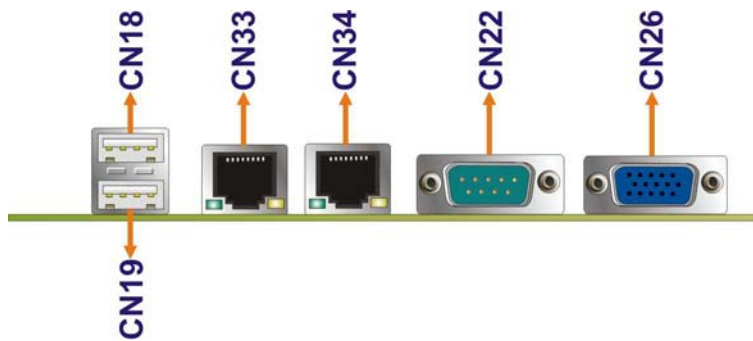

Figure 4-24: WAFER-LX3 External Peripheral Interface Connector
Figure 4-24 shows the WAFER-LX3 external peripheral interface connector (EPIC) panel.
CN Location: See **Figure 4-24**
- CN Location:** See **Figure 4-24** (see 2)